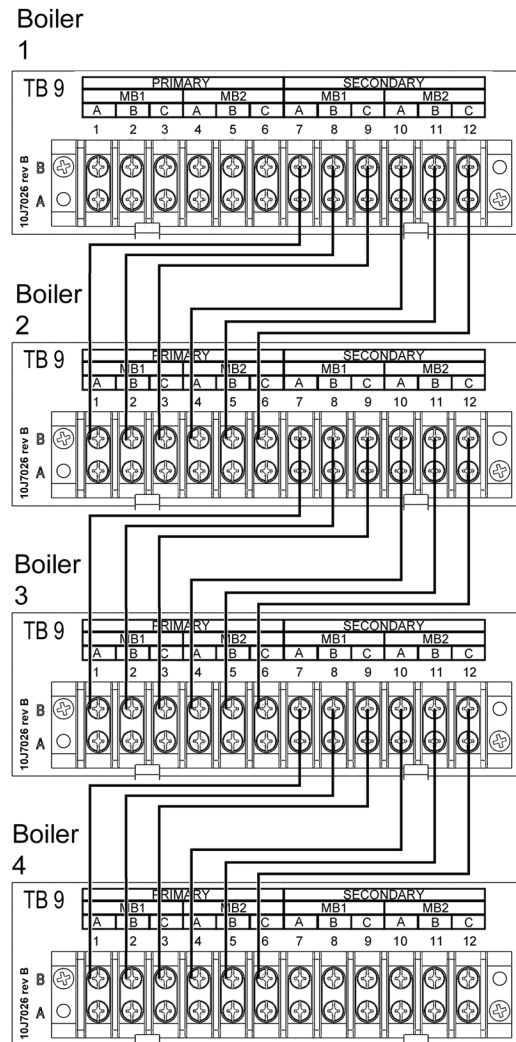

Fig. 79 - Modbus Connections
In an installation with multiple boilers, the controllers are arranged in a “daisy chain.” The wiring from the Secondary controller on one boiler (TB9 - pins 7 through 12) to the Primary controller on the next boiler (TB9 - pins 1 through 6). See Fig. 79. Use 22
2. Figure 79 shows how to make the connections. The following table lists the connections from Boiler 1 to Boiler 2.
- Repeat the process for Boiler 2 and 3, and Boiler 3 and 4. The connections to the other boilers follow the pattern we just described. Use Fig. 79 as your reference.